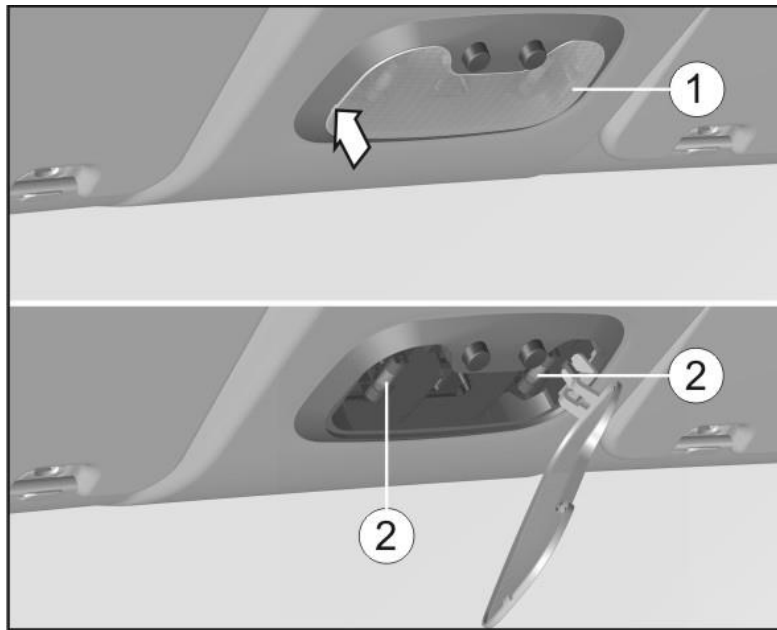

Fig. 7.6. Cab dome light replacement: 1 – lens; 2 - LEDs
- insert a screwdriver into the groove in the center of the left end of diffuser 1 (Fig. 7.6), pry off the lens, turn the screwdriver and remove the lens;